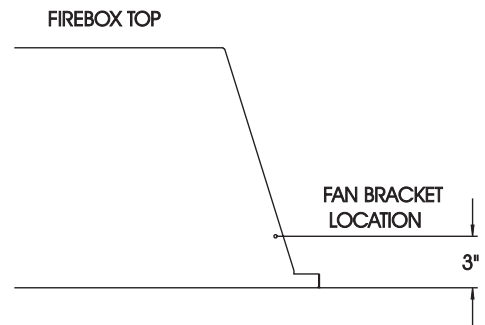

Figure 24
4. Centered in the rear are two (2) weld studs which protrude upward into the bottom of fireplace for attachment of fan.
6. Align and place front set of clearance holes on fan mounting bracket onto two (2) weld studs.
7. Use two (2) wing nuts to attach blower to weld studs.
8. Located in the right, front are two (2) weld studs which protrude upward into the bottom of fireplace for attachment of speed control.
9. Insert speed control into interior, bottom of fireplace. Align and place two (2) clearance holes on speed control onto two (2) weld studs.
10. Use two (2) wing nuts to attach speed control to weld studs.
12. Refer to Figure 24 for mounting hole location on right side of firebox top. Measure from front edge of firebox top to determine mounting hole location. Remove appropriate screw from firebox top.